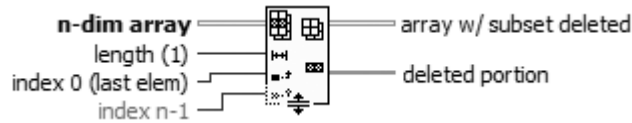
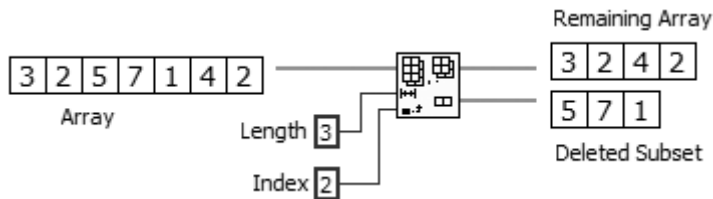

Figure 7.29
Figure 7.30
- **Delete From Array** deletes a portion of an array starting at **index** and containing **length** elements (see Figure 7.29). Similar to the **Array Subset** function, **Delete From Array** returns subset of an array, but it also returns the original array minus the deleted subset (see Figure 7.30).